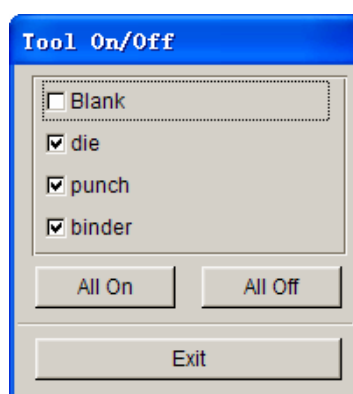

Figure 8.2.5 Tool On/Off
**DISPLAYING** — Control tool display. The user may conveniently control tool display on and off as shown in Figure 8.2.5.